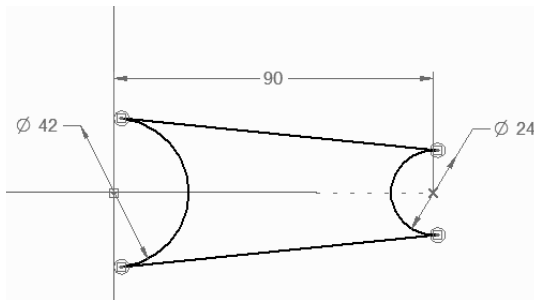

Figure 5-60 Profile for the base feature
- Add the required relationships and dimensions to the sketch, as shown in Figure 5-60.